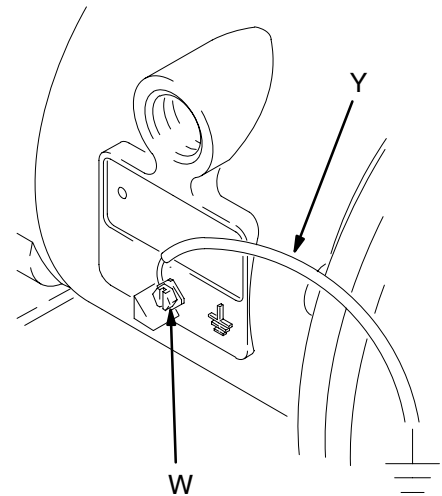

Fig. 1
- *Pump*: loosen the grounding screw (W). Insert one end of a 12 ga (1.5 mm²) minimum ground wire (Y) behind the grounding screw and tighten the screw securely. See Fig. 1. Connect the clamp end of the ground wire to a true earth ground. Order Part No. 222011 Ground Wire and Clamp.